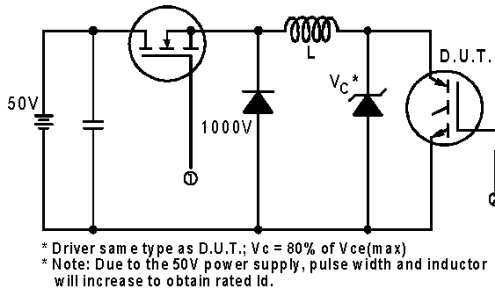

Fig. 13a - Clamped Inductive Load Test Circuit
- ② $V_{CC} = 80\%(V_{CES}), V_{GE} = 20V, L = 10\mu H, R_G = 23\Omega$, (See fig. 13a)
- ③ Repetitive rating; pulse width limited by maximum junction temperature.
- ④ Pulse width $\leq 80\mu s$; duty factor $\leq 0.1\%$.
- ⑤ Pulse width $5.0\mu s$, single shot.